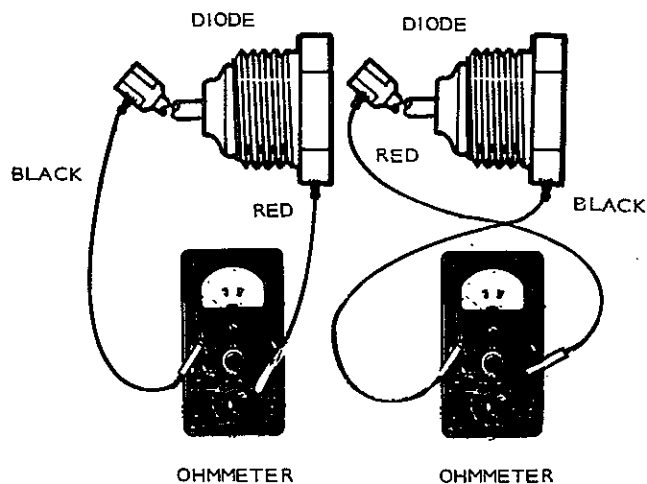

FIGURE 10-73. DIODE TEST CONNECTIONS
1. Connect red and black test leads as shown in Figure 10-73 between the center post and the base.